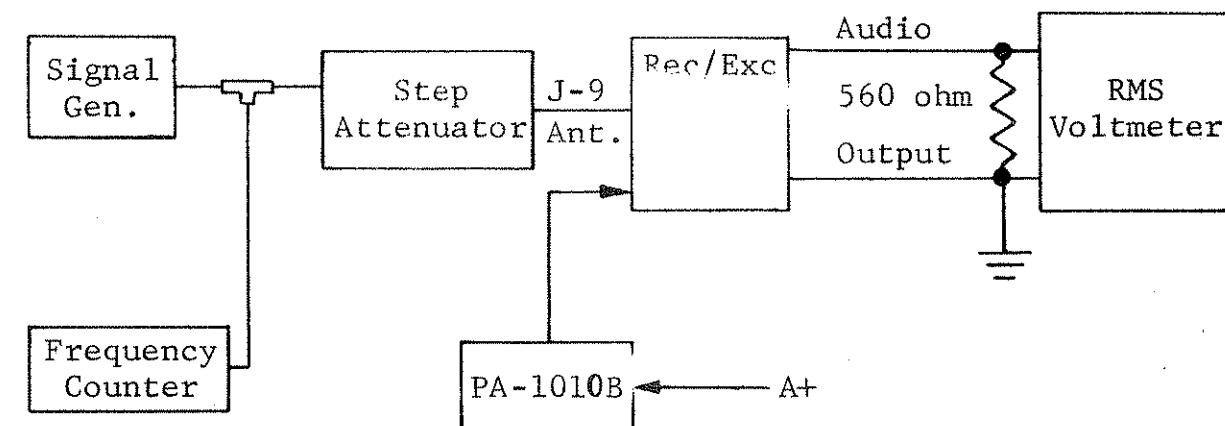

Figure V-3
- (1) Follow steps (1) through (4) of Paragraph 1-a.
- (2) Connect test equipment, as shown in Figure V-3.